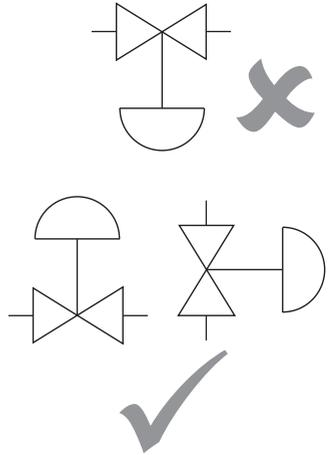

Fig. 2
- 3.3** Determine the correct installation situation and the direction of fluid flow. The valve should preferably be installed along a horizontal pipeline with the valve mounted above the pipe (see Figure 2). When mounting an actuator to the valve body, the actuator Installation and Maintenance Instructions must be followed.